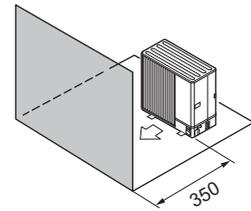

Fig. 1-9
- (4) Obstruction or closed surface at front only (Fig. 1-9)